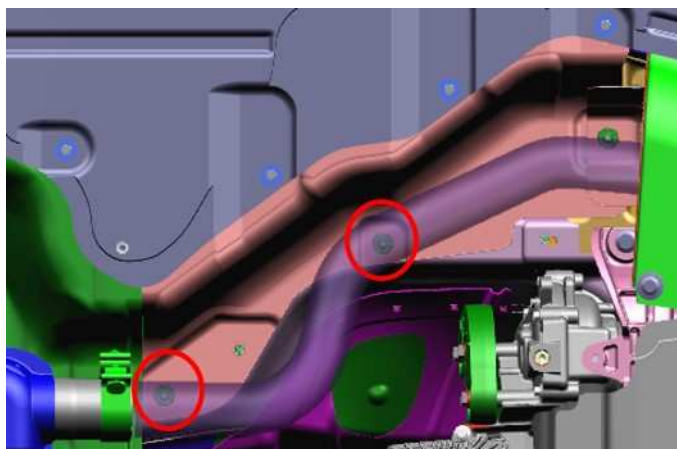

Fig. 9
6. Remove the two fasteners securing the right floor pan heat shield to the body (Fig. 9) .
8. Install the new right floor pan heat shield (Fig. 9) with two fasteners. Tighten plastic nuts to 4 N·m (35 in. lbs.).